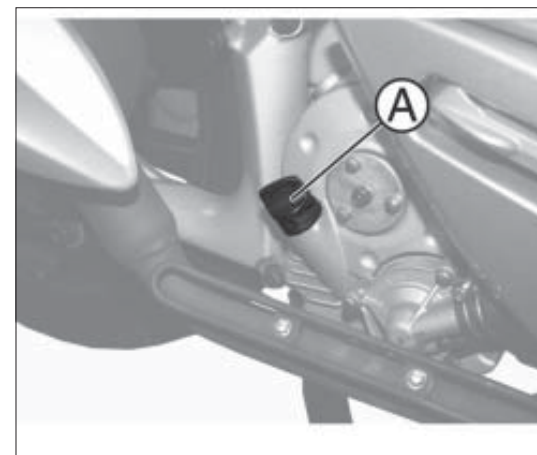
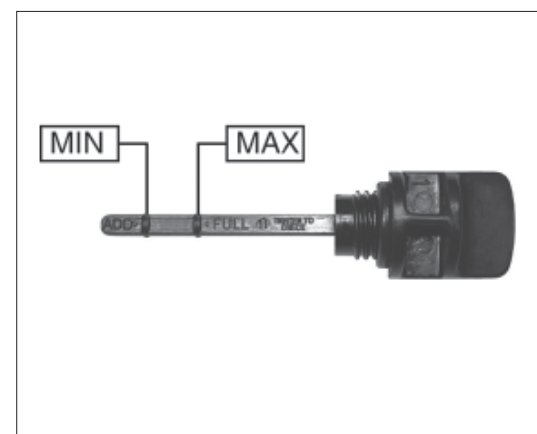

fig. 1
fig. 2
- unscrew the cap/dipstick A Fig. 1 and clean it with a clean cloth;
- screw back the cap/dipstick A fig. 1;
- unscrew cap/dipstick A fig. 1 again and check that the oil level has reached the intermediate level between the MIN and MAX, as indicated in fig. 2.